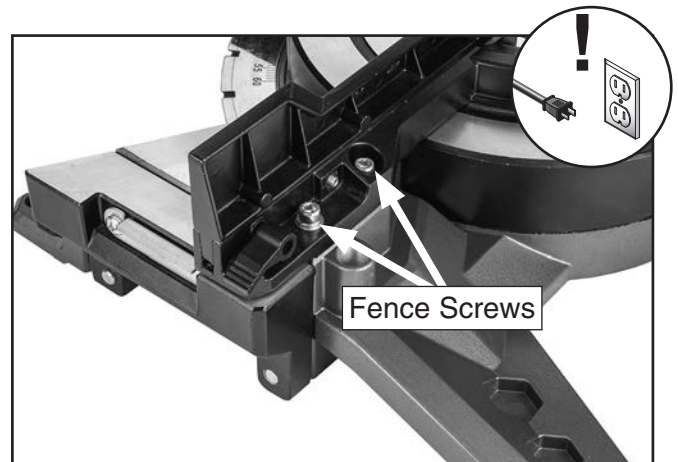

Figure 81. Fence locking screws.
5. Loosen fence screws shown in **Figure 81**.